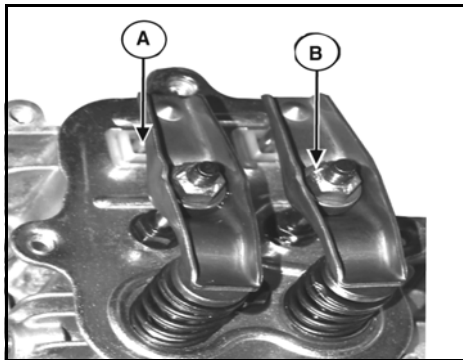

Figure 7
1. Loosen rocker arm screws and/or lock nuts (A, Figure 7 and 8), and remove from rocker arm studs. Remove rocker arms (B) and rocker balls from studs.